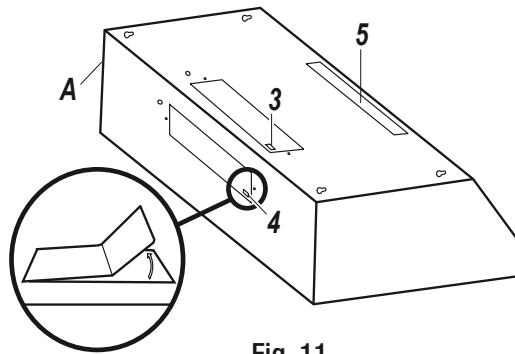

Fig. 11
- Choose the venting hole to remove for your installation type. Use the top hole (3) for a top venting installation and the back hole (4) for a back venting installation.
- Carefully remove the cover (3 or 4) of the appropriate venting hole using a flat head screwdriver or needle nose pliers (refer Fig. 11). Be careful not to leave any debris inside the range hood (A).